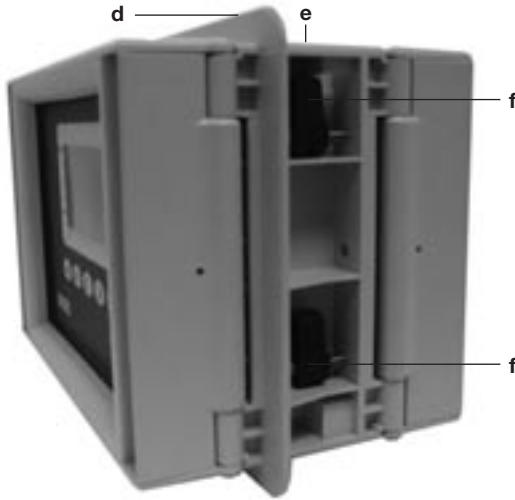

Fig. 10
8. Slide the M800 flow computer through the aperture until bezel 'd' (Figure 10) butts up against the panel front.
9. Tighten the four clamping screws 'g' through the access holes in the M800 front panel bezel. This will automatically extend the clamping legs 'f' (Figure 10).